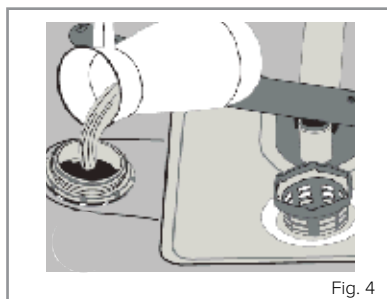

Fig. 4
- Fill the compartment with dishwasher salt (do not use table salt) carefully, to reduce the risk of spillage (Fig. 4). Before first use, you should fill the salt compartment with 1kg of dishwasher salt and then top up the compartment with water (up to the brim of the compartment) (Fig. 4).